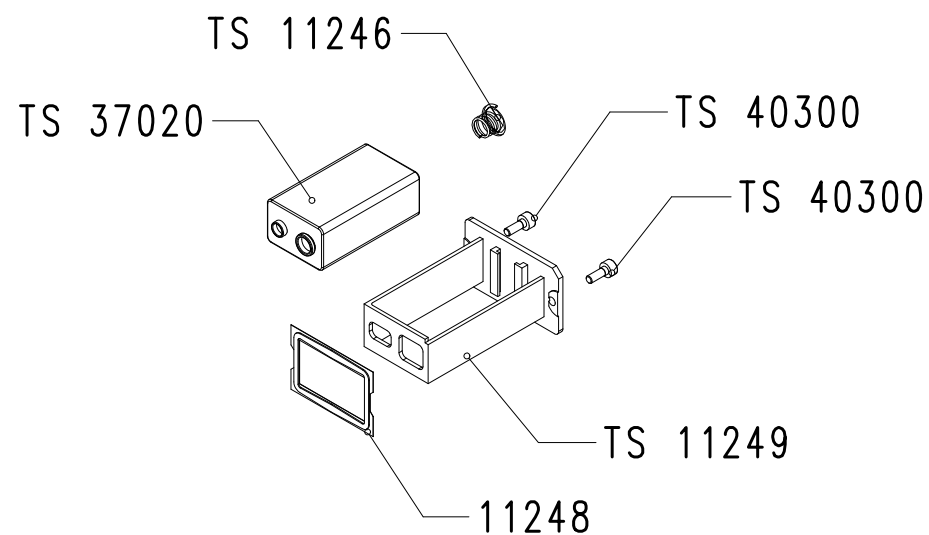

Figure 11-4: battery holder assembly TS 10189, details
- Figure 11-4: battery holder assembly TS 10189, details